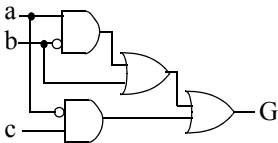

Figure 2.79
2.33 Create a Boolean equation representation for the digital circuit in Figure 2.79.